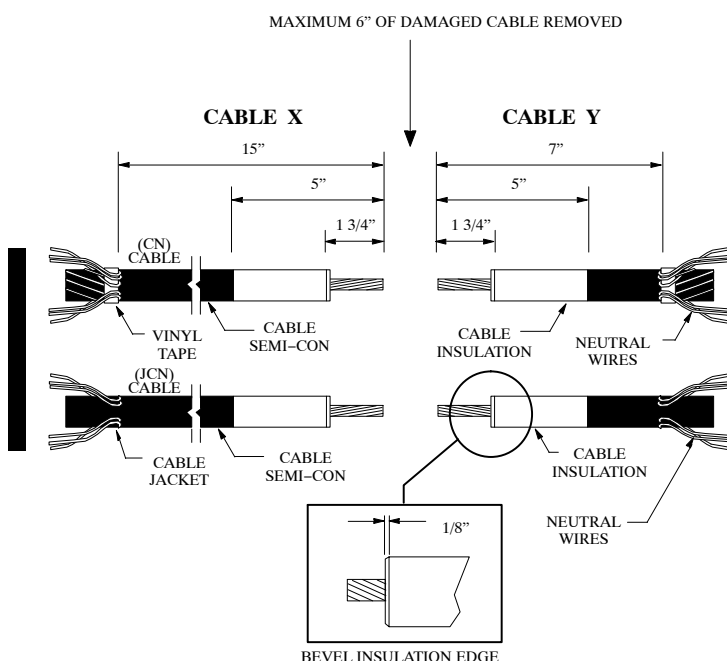

FIGURE 1
2. Prepare the cables as shown in Figure 1. If the cable is non-jacketed, bind the neutrals with wire or vinyl tape at the jacket cut back dimensions shown in Figure 1. Check the dimensions using templates provided.